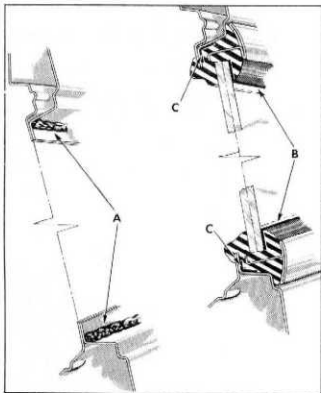

Fig. 23—Sealing Back Window
- Apply 3-M Autobody Sealer around outside base of pinch-weld continuously around back window opening as shown at "A" (fig. 23).